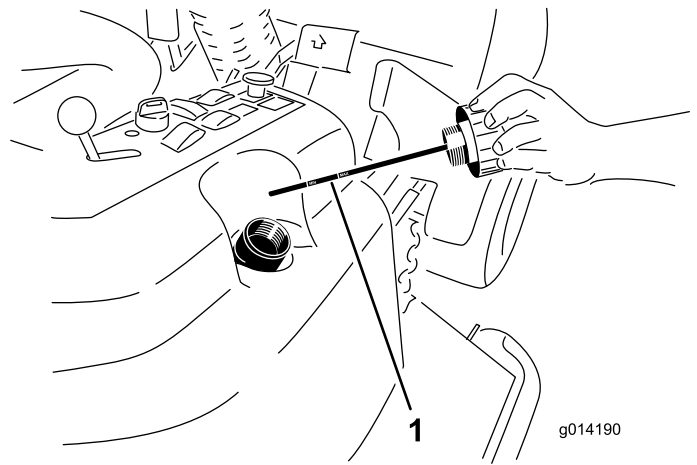

Figure 48
2. Remove the hydraulic fill cap (Figure 48) from filler neck.
3. Remove the dipstick and wipe it with a clean rag (Figure 48).
4. Screw the dipstick all the way into the filler neck; then remove it and check level of fluid (Figure 48).